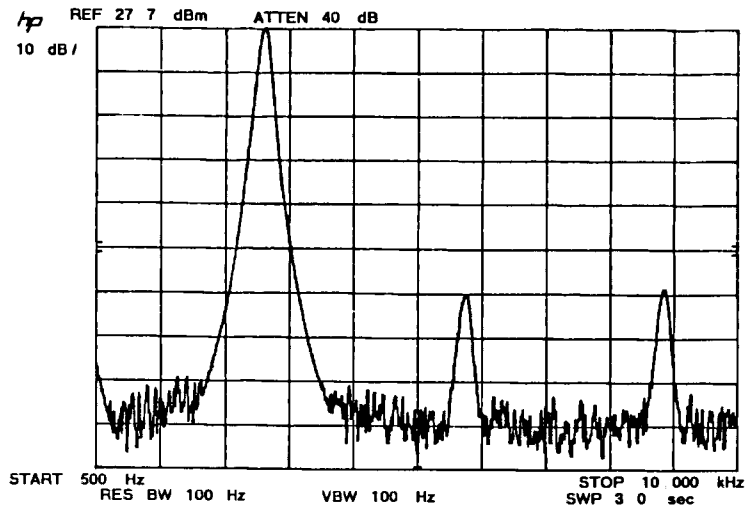

Figure 9-3. Typical Spectrum During 2nd Harmonic Adjustment
21. Set up the analyzer to show the fundamental, at 0 dB, and the first two harmonics. (Refer to Figure 9-3).